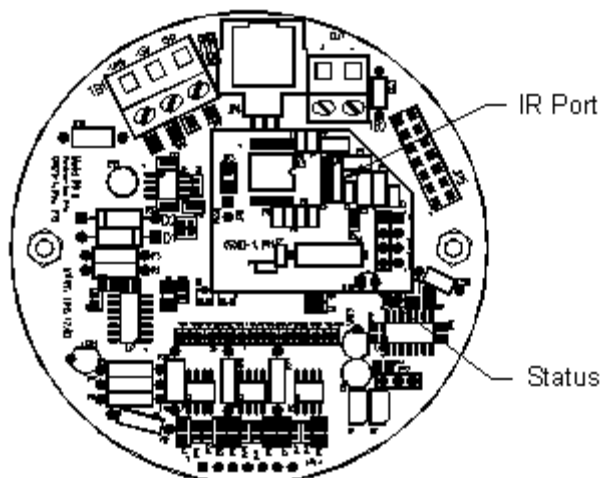
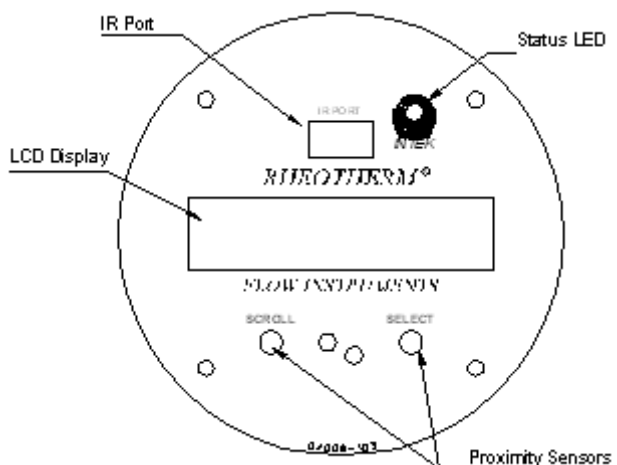

Figure 1 - "Blind" Instrument
Figure 2 - Cover of Instruments with "Display"
Unless specifically ordered otherwise the Model 210 includes an IR Input/Output port. There are two main transmitter options; a "blind" option (Figure 1) or a "display" option (Figure 2). Units with the "blind" option still have a built-in infrared (IR) link, however, the enclosure lid must be removed to access this IR link. Units with the "display" option include an IR port, proximity sensor inputs, and an LCD display, in addition to the User Interface Software. With the "display" option, additional user information is provided on the instrument's LCD display to support the palm application. While working with the palm device software this information can be viewed through the enclosure window.
To use the palm application, direct the palm device towards the IR port location (see Figure 1 or 2). As the instrument receives the palm device commands, the status LED will change from a short repetitive burst to a steady single pulse as the data is received and processed.